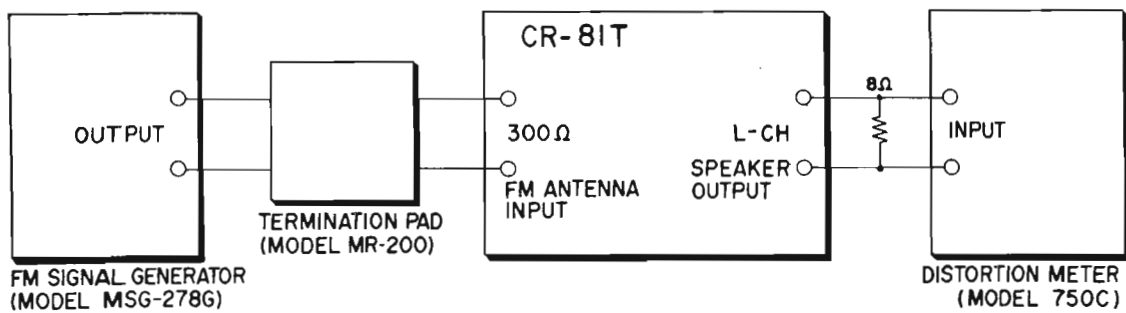

Fig. 26
Use the same instruments as in item 3 (Fig. 26) and connect them in the same way.
- 5) Repeat items 1) through 4) 2 or 3 times until perfect tracking is accomplished at 90 MHz, 98 MHz, and 106 MHz and maximum reception sensitivity is attained.